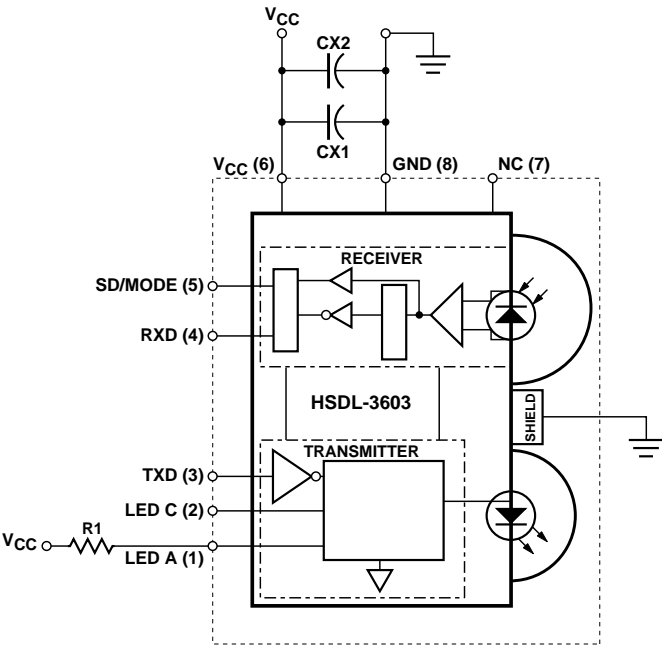

Figure 1. HSDL-3603 functional block diagram.
2. In environments with noisy power supplies, supply rejection performance can be enhanced by including CX2, as shown in Figure 1: "HSDL-3603 Functional Block Diagram" on Page 2.